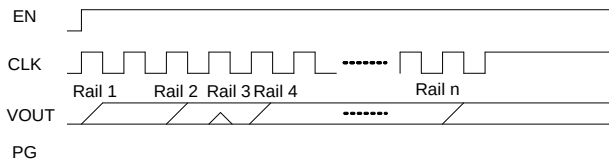

Figure 9: Soft Start during PMIC Error when CLK Does Not Pull Down (No CLK Pausing)
- If CLK_ON_ERROR_PAUSE_EN = 0, the initiator/target PMIC does not pull the CLK pin down, even if any error occurs during the soft start of any power rails (see Figure 9).